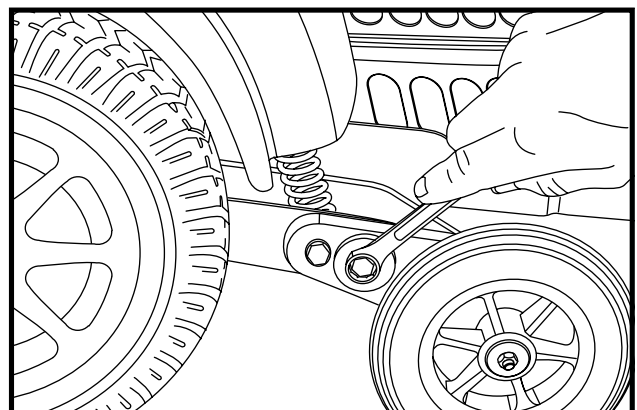

Figure 19. Anti-Tip Wheel Adjustment (Cam)
4. Loosen the setscrews. See figure 19.
4. To adjust the anti-tip upward, turn the cam counterclockwise. To adjust the anti-tip downward, turn the cam clockwise. See figure 19.